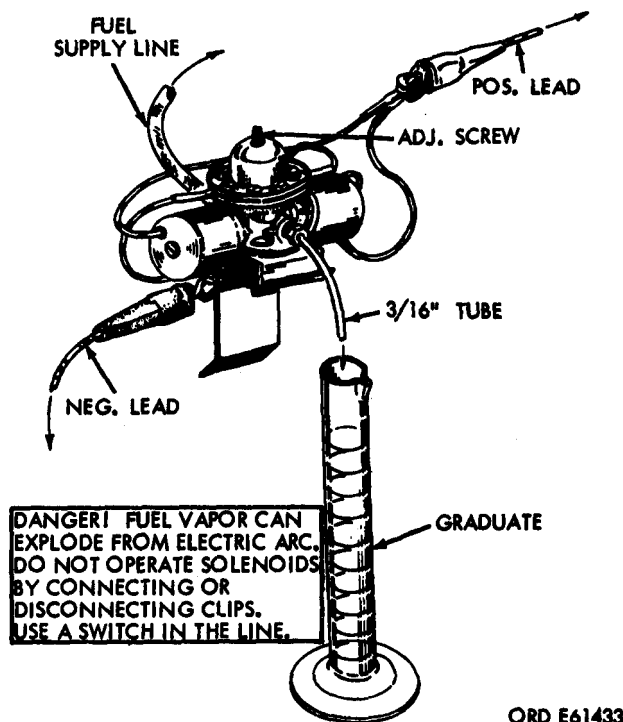

Figure 722. Fuel control valve test setup.
j. *Fuel Control Valve Tests (Fig. 722).*
- (1) If a flowmeter is not available to test fuel flow, the fuel control valve can be removed from the heater and tested separately by measuring the amount of fuel which passes through the valve in a specified time.
- (2) The fuel control valve must be tested in its actual operating position. The test setup illustrated in figure 722 is suitable for a valve which will operate in the normal position only. If the heater operated in any other position, it will be necessary to attach the fuel tube and standpipe to the valve, or to simulate these parts with tubing of not less than 3/16-inch diameter. This entire assembly must then be tested in its actual operating position.
- (3) In addition to the tubing, a 50- or 100-cc glass graduate with accurate calibrations will be required. A fixture to hold the valve should be provided and two test leads with alligator clips and a panel switch must be provided to energize the solenoids.
(4) To test fuel flow proceed as follows:
- (a) Mount the valve in the holding fixture and connect the fuel line and test leads according to figure 722. Place a container under the valve and apply fuel pressure,